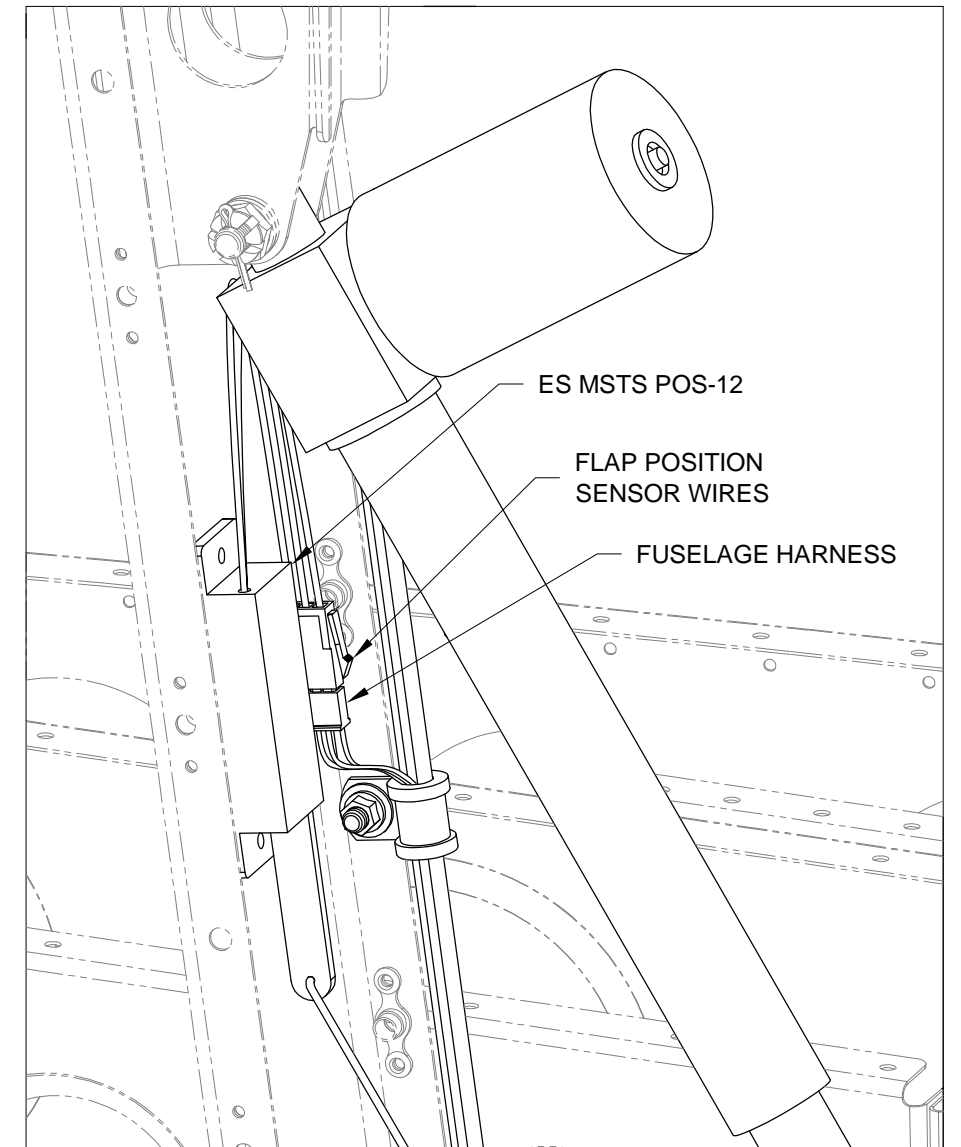

FIGURE 3: WIRE HARNESS ATTACH
Step 9: Attach the flap position sensor wires to the fuselage harness. See Figure 3.